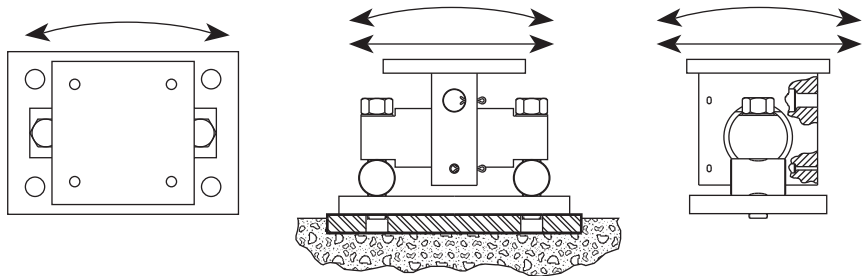

Figure 9-7. EZ Mount 1 Weigh Module
Figure 9-7 illustrates the EZ Mount 1 weigh module with arrows indicating allowable movement.
- This arrangement allows the chair to move in practically all directions, as illustrated in Figure 9-7, while providing checking in all directions.